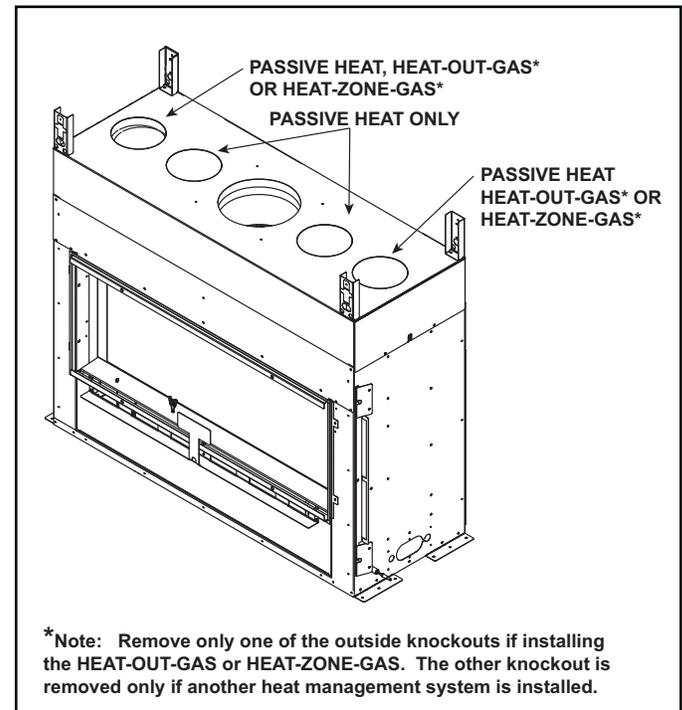

Figure 6.4
- Center the duct collar around the exposed hole and attach it to the appliance. See Figure 6.4.
- Passive Heat (PH-MCE, PHFR-MCE, PHSI-MCE): May be used with HEAT-ZONE-GAS or one HEAT-OUT-GAS. The dedicated knockouts must be used as indicated in Figure 6.4.